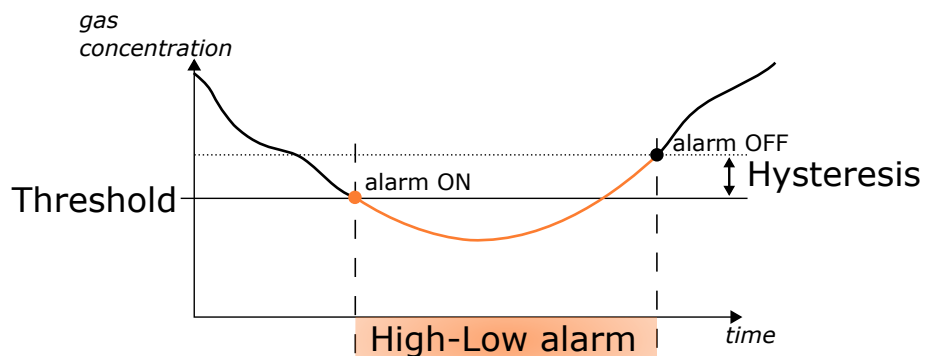

Figure 7.11: Hysteresis behavior when setting the limit type High-Low.
- **H/L**: Limit value switches on when threshold is undershot, it is switched off when threshold + hysteresis is exceeded, see Figure 7.11.